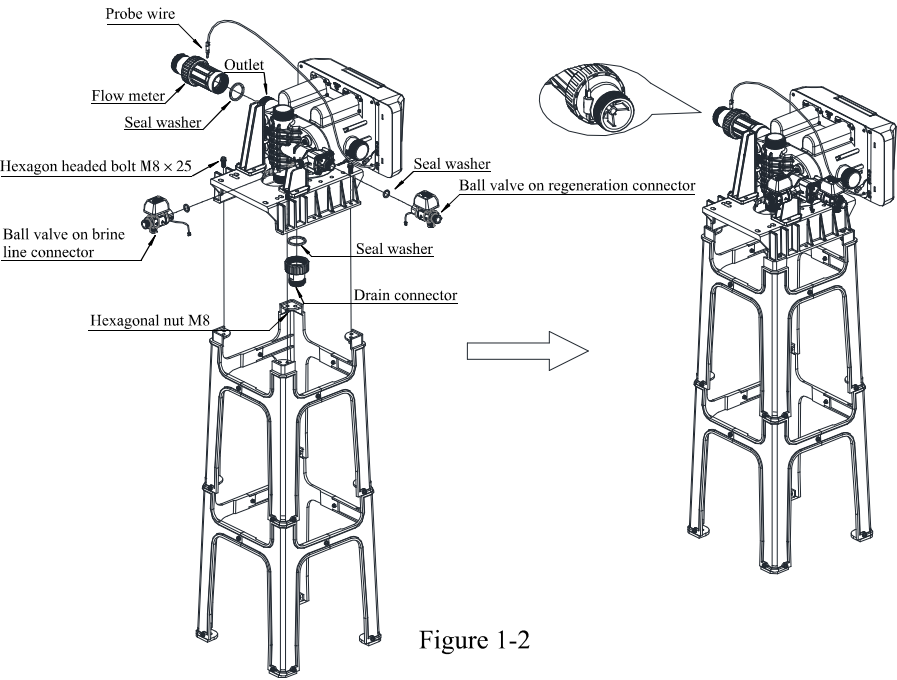
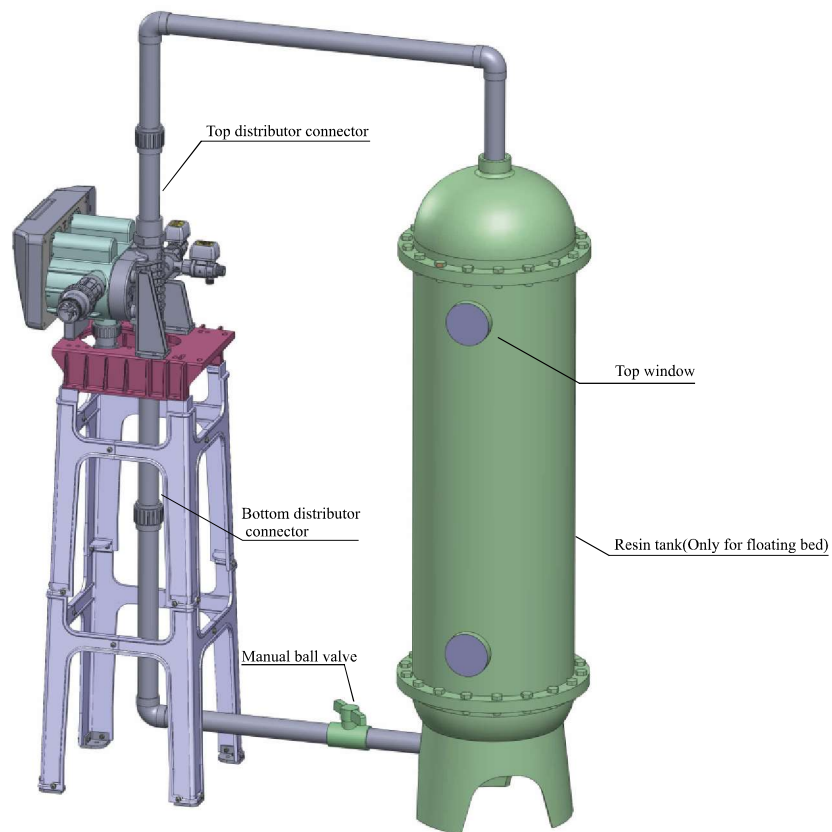

Figure 1-2
Figure 1-3
- As Figure1-2 shows, use the 4 pieces of hexagon bolts (M8*25) to install control valve on the seat frame.
- As Figure1-2 shows, put the sealing ring into flow meter connector, screw in water outlet; insert the sensor into flow meter.(Without this step when the control valve is time clock type)
- As Figure1-2 shows, when install the brine line connector ball valve and regeneration connector ball valve, it need to put in the sealing ring.
- As Figure1-2 shows, Insert drain line flow control into drain hose connector, then crew it into drain outlet, and lock it.
②Installing resin tank and top/bottom distributor
- Top and Bottom distributor pipeline connection is like Figure 1-3,Install a manual ball valve between bottom distributor and tank.